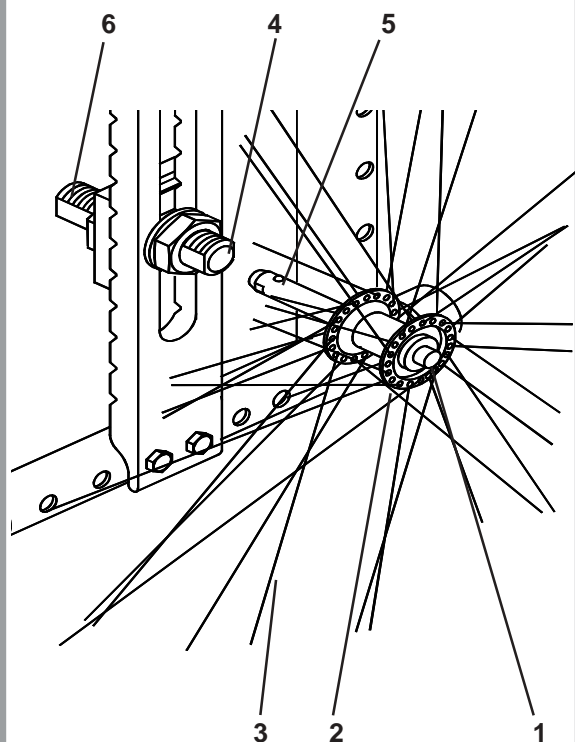

Fig. 26
To remove quick-release axles (Fig. 26) simply press the quick-release button (1) which is located in the wheel hub (2), and grip the wheel through the spokes (3) around the hub and pull the axle out of its sleeve (4). To replace, slide the axle into the sleeve until the release button 'pops' out and the two locking pins (5) are visible on the inside (6) of the sleeve.